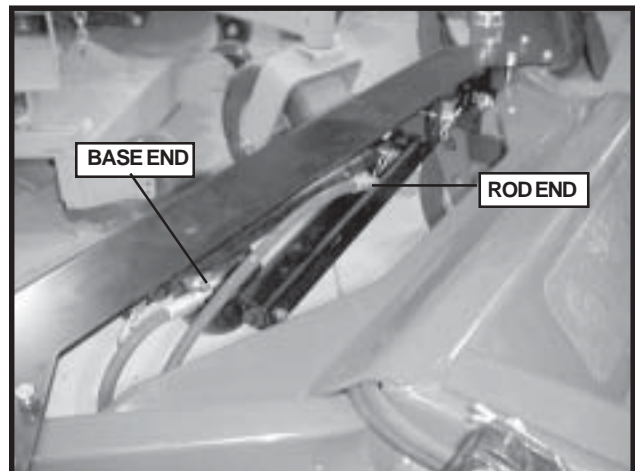

FIGURE 3
7. Attach the longest hydraulic line to the rod end port on the jack lift cylinder, attach the shorter hydraulic line to the base end port on the jack lift cylinder. See Figure 3.